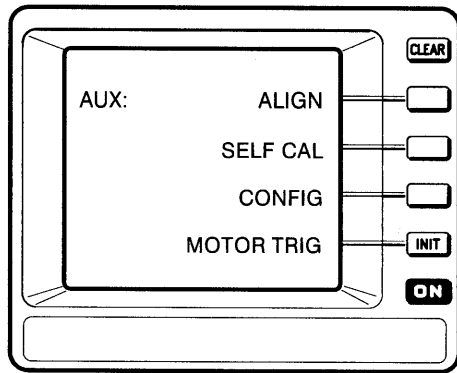

Figure 3-18: The Auxiliary Functions Menu
- Step 1:** Press the **AUX FUNCT** button on the top panel to display the auxiliary functions menu. Figure 3-18 shows the display.